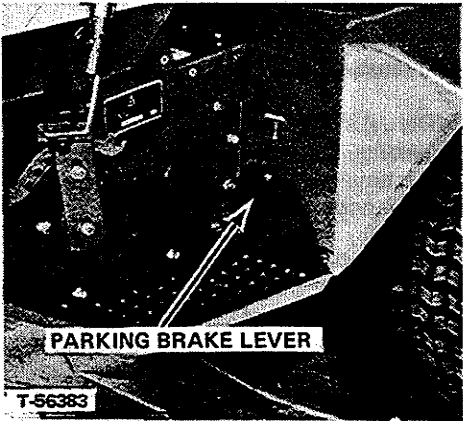

FIGURE 3
8. PARKING BRAKE LOCK (Figures 3 and 4)
To lock the parking brake pull the parking brake lever up into a vertical position opposite position shown in Figure 3. Lever can be more easily lifted and locked in position if foot brake is fully depressed first. Brake should be locked whenever operator leaves the tractor seat.